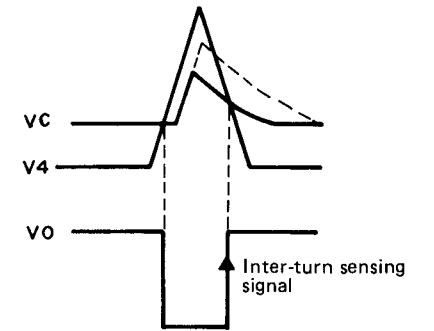

Fig. 5
- 6) A4 is a comparator with hysteresis, and it compares V4 and Vc, and makes the rise of its output Vo the intertune sensing signal. (Refer to Fig. 5)